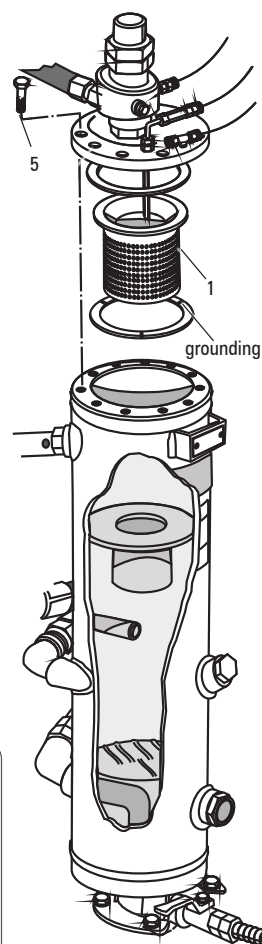

FIGURE 17.9
In order to change the separator element, follow the procedures below and check Figure 17.9. The period for changing the separator element is indicated in Table 17.3;
- For compressors SRP 4150 and SRP 4200 there is support in the reservoir to facilitate removal of its cover, as in figure 17.9.